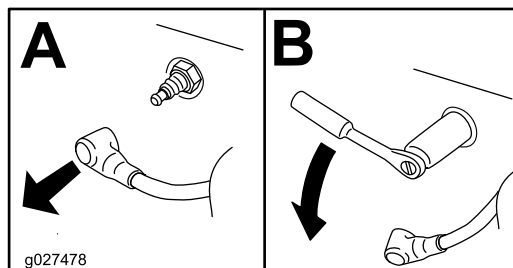

Figure 26
4. Remove the spark plug (Figure 26).